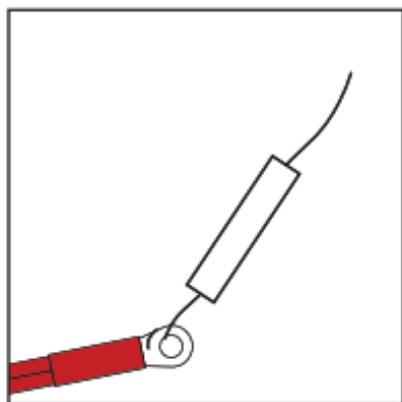

Figure 1
1. Wrap one wire end of included resistor to the positive (RED) battery lead ring as shown in Figure 1.